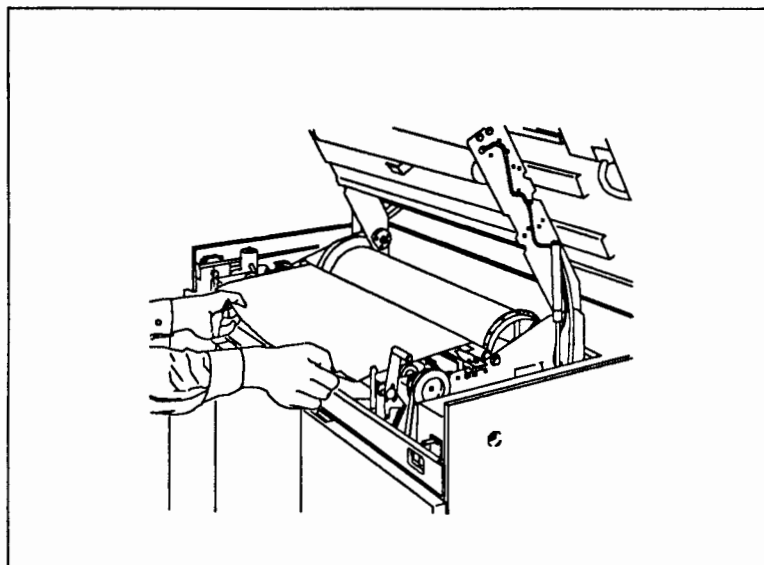

Figure 2-20. Media Routing
- j. Route the media over the writing head and developer bar as shown in Figure 2-20.